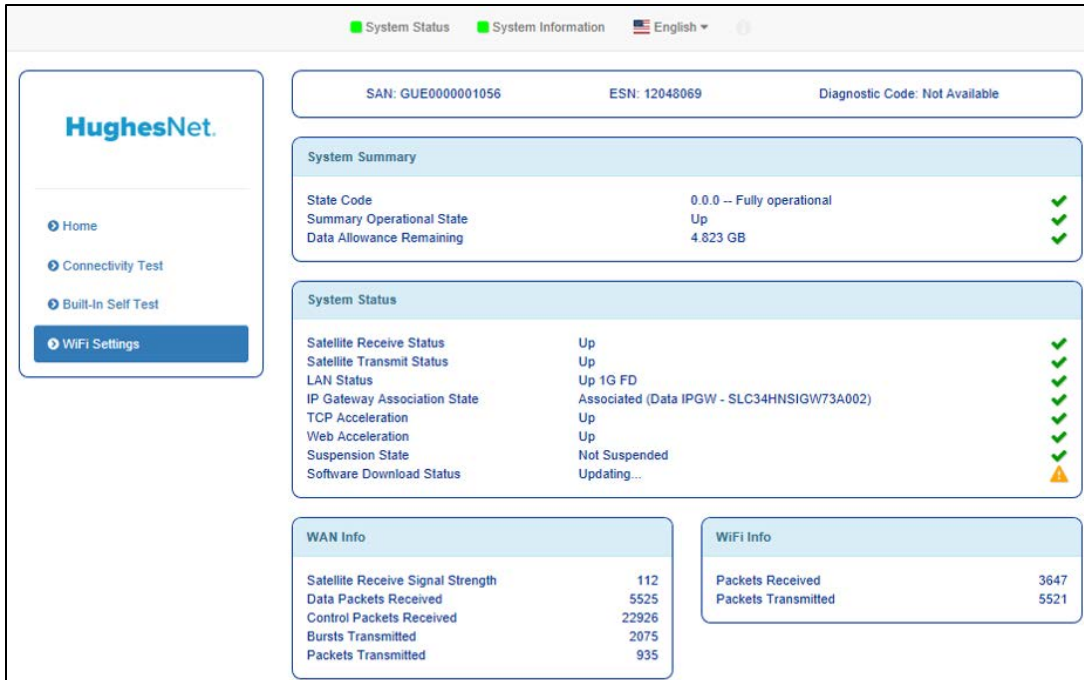

Figure 35: System Status screen
3. Click the Home link on the side panel. The System Control home page appears as shown in Figure 35.
2. Click the Service Activation link as shown in Figure 35.